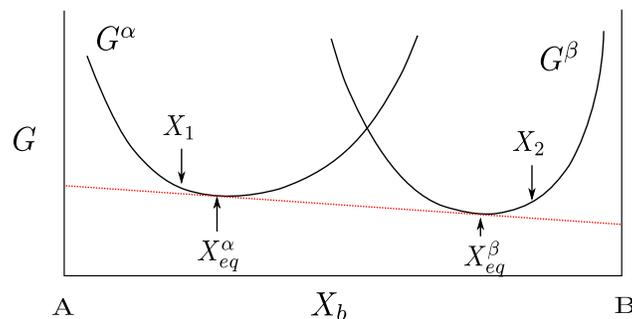

Figure 2: Free energy curves for a model A/B alloy.
5) Consider two binary alloys with compositions $X_b = X_1$ and $X_b = X_2$, shown in Figure 2 along with the free energy curves for α and β phases formed by this alloy. Draw the composition profile across the interface shortly after the two alloys are brought into contact with one another, assuming that the interface is in "local equilibrium", i.e. the interface compositions are given by the equilibrium phase diagram. Describe the direction in which you expect the B atoms to diffuse on each side of the interface.